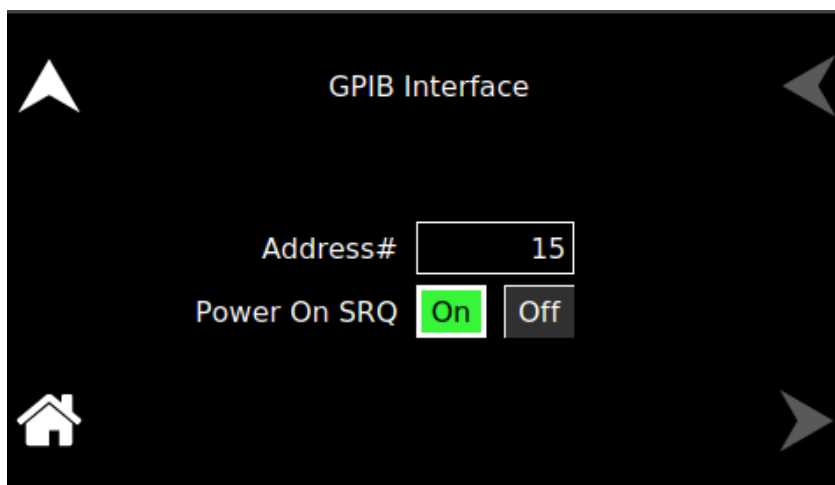

Figure 5-2. GPIB Screen
SGX GPIB address can be configured by using the front panel menu, see Figure 5-2. To navigate to GPIB screen, go to Home → Control Interface → GPIB. For details refer to SGX Operation Manual, M551600-01.
PON SRQ can be enable using the front panel menu, see Figure 5-2. When PON SRQ is enabled, a GPIB service request will be sent by the power supply to the computer controller on Power ON.
1. Set the rear panel Local/Remote switch to Remote (ON).
2. Set the GPIB address via the front panel menu, see Figure 5-2.